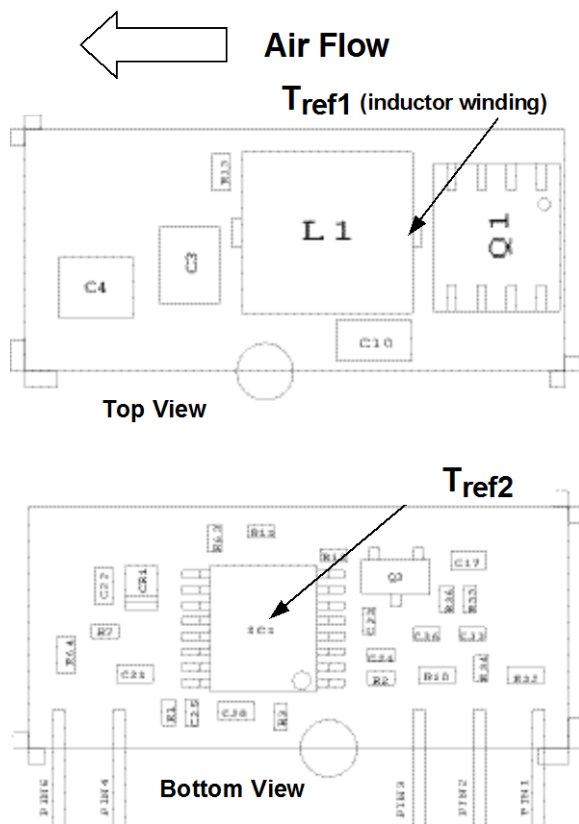
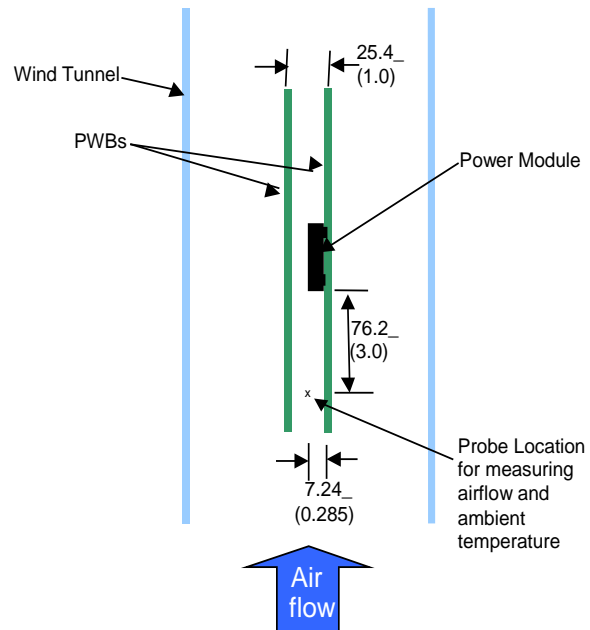

Figure 32. Tref Temperature measurement location.
Figure 33. Thermal Test Set-up.
Considerations include ambient temperature, airflow, module power dissipation, and the need for increased reliability. A reduction in the operating temperature of the module will result in an increase in reliability. The thermal data presented here is based on physical measurements taken in a wind tunnel. The test set-up is shown in Figure 33. Note that the airflow is parallel to the long axis of the module as shown in figure 32. The derating data applies to airflow in either direction of the module's long axis.
The thermal reference point, T_{ref1} used in the specifications of thermal derating curves is shown in Figure 32. For reliable operation this temperature should not exceed 125°C. The output power of the module should not exceed the rated power of the module ($V_{o,set} \times I_{o,max}$).